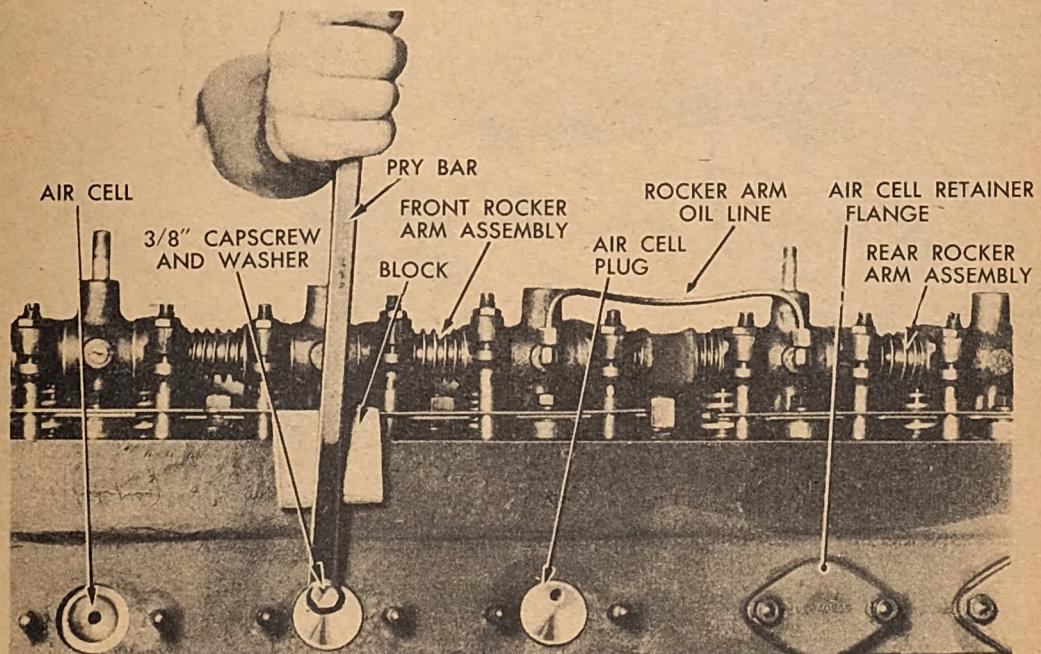

Fig. 78. Removing Energy Cell Plug
(8) Unscrew the nuts holding the air cell retaining flange to the cylinder head. Screw a  $\frac{3}{8}$ -inch capscrew in the air cell plug and pry the plug from the head. (See Figure 78.) (The plug is ordinarily a sliding fit in the cylinder head, but a slight accumulation of carbon may necessitate the use of a pry as suggested.)
a. **Removing Rocker Arm Assembly.** The cylinder head cover was removed when the engine was disassembled from the generator set. A lifting bracket was installed in place of the cover in order to provide a means of lifting the engine from the generator set. Disconnect the oil line connecting the two rocker arm assemblies. (See Figure 78.) Unscrew the six capscrews holding each rocker arm assembly to the cylinder head. Lift off the two push rod spacers for each rocker